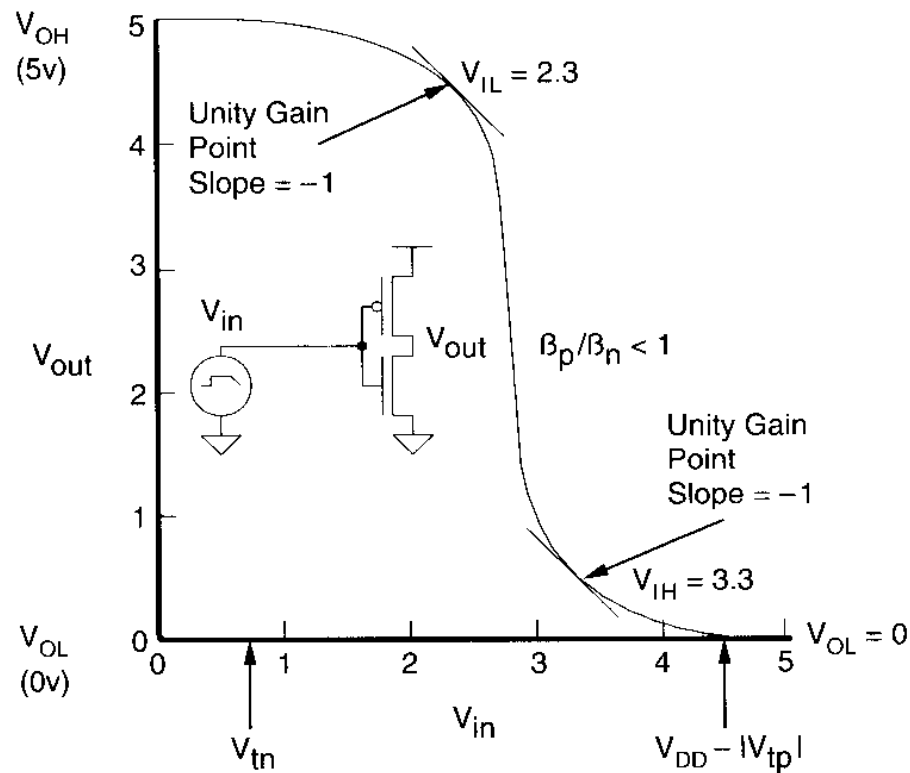

FIGURE 2.17 CMOS inverter noise margins
- For the purpose of calculating noise margins, the transfer characteristics of a typical inverter and the definition of voltage levels V_{IL} , V_{OL} , V_{IN} , V_{OH} are shown in Figure 2.17.
- The noise margin defined for the inverter shown in Figure 2.17 is $NM_L = 2.3V$ and $NM_H = 1.7V$. Note that